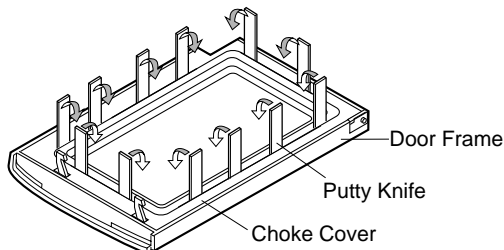

Figure C-4. Door Disassembly
- Insert a putty knife (thickness of about 0.5mm) into the gap between the choke cover and door frame as shown in Figure C-4 to free engaging parts.
- Pry the choke cover by inserting a putty knife as shown Figure C-4.